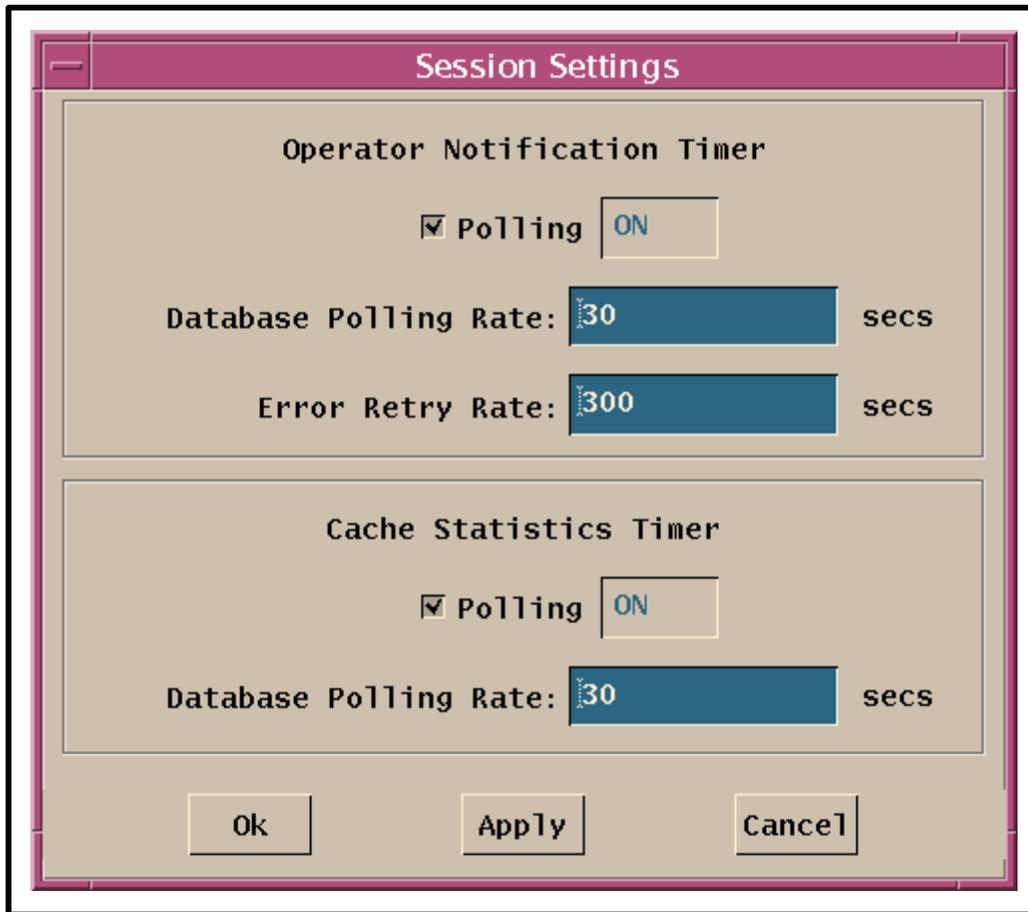

Figure 12. Session Settings Dialogue Box
- The **Session Settings** dialogue box (Figure 12) is displayed.